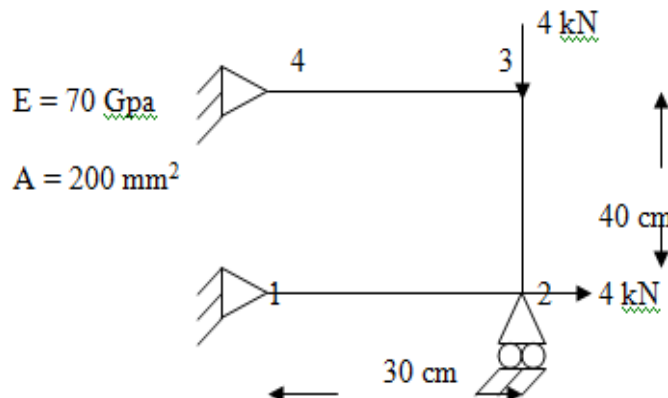

Figure 2
5. For the truss structure shown in figure 2, with indicated load, calculate the stress in each element. 14M